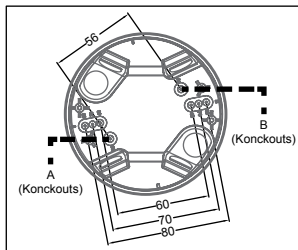

Figure 5
1. There are 4 pairs of knockouts with various distances from 56mm to 80mm on the bottom cover of combined surface mount box for different mounting applications (Fig. 5). Select two same figures on both ends for the corresponding distance for fixing (Table 2).